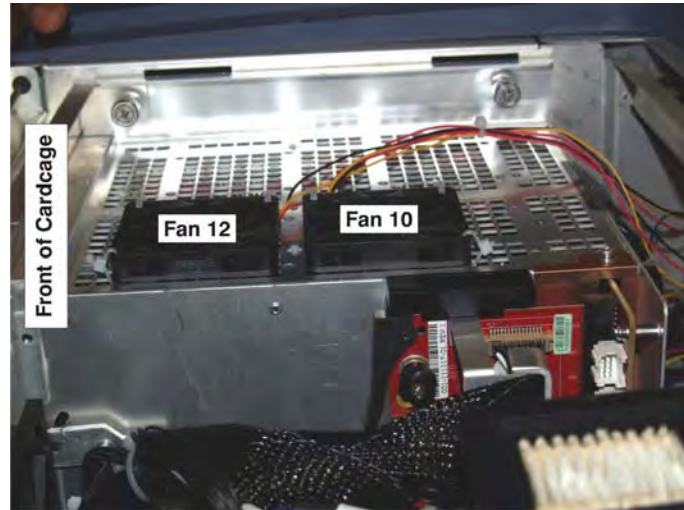

Figure 5-18 Cardcage Intake Fans
The cardcage intake fans are located on top of the cardcage. These fans draw in air responsible for cooling the cardcage electronics. Both fans are plugged into the EVB board and can be replaced individually. **NOTE:** *Two additional fans can be installed to the top of the cardcage - these are optional and not shown in Figure 5-18.*
3. Disconnect the two fan harnesses from the EVB board. (**Figure 5-18**)